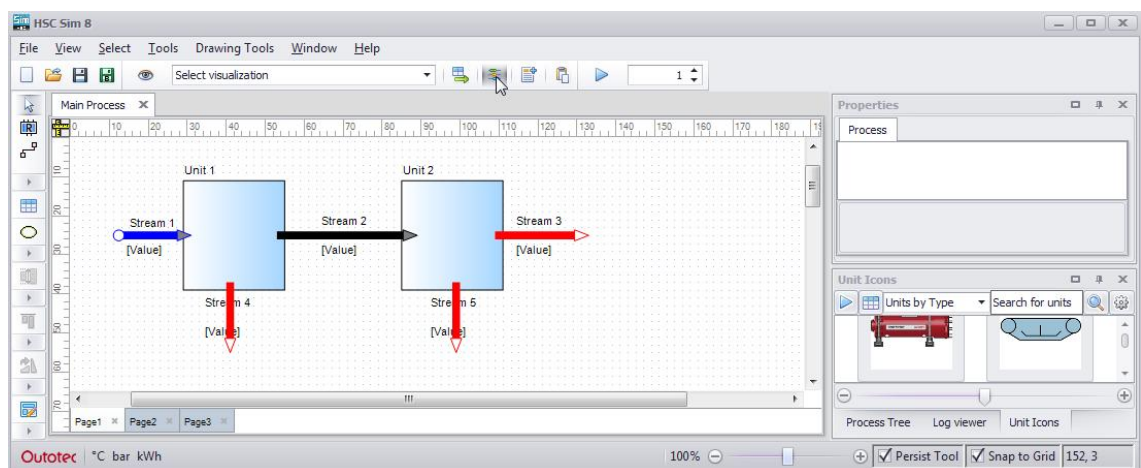

Fig. 4. Visualizing stream connections.
- Choose the Select icon and move the beginning or end of the stream to a new unit or out of the unit. HSC8 Sim will suggest a new connection to the stream that the user can accept (OK) or Cancel.
- When the flowsheet is ready, check that the streams are connected to the correct units. The user can check connections visually, see **Fig. 4**. A white circle or arrow means that the stream source or destination is unknown (a gray arrow means it is known). Blue stream means input, black stream is between two units and red stream means output. It is also possible to click the **Tools** menu to show the **process tree**. The most time-consuming task is selecting streams one by one and looking at the **properties** (process sheet) to see the source and destination of the stream.